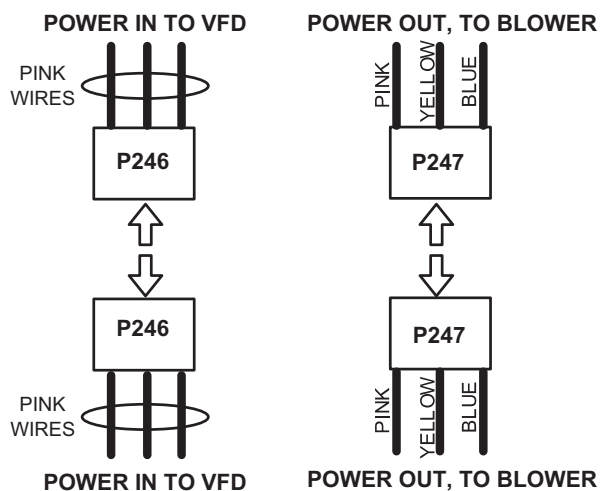

FIGURE 42
- 3 - Disconnect P246 from P246 (power in to VFD) and P247 from P247 (power out to blower). See FIGURE 42.